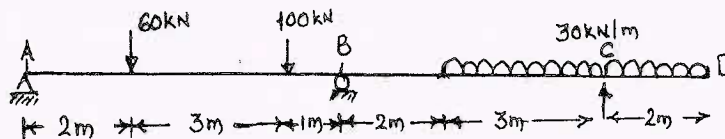

Fig.Q3
- 3 Analyse the beam shown in Fig.Q3 by moment distribution method. Draw BMD, SFD and elastic curve.